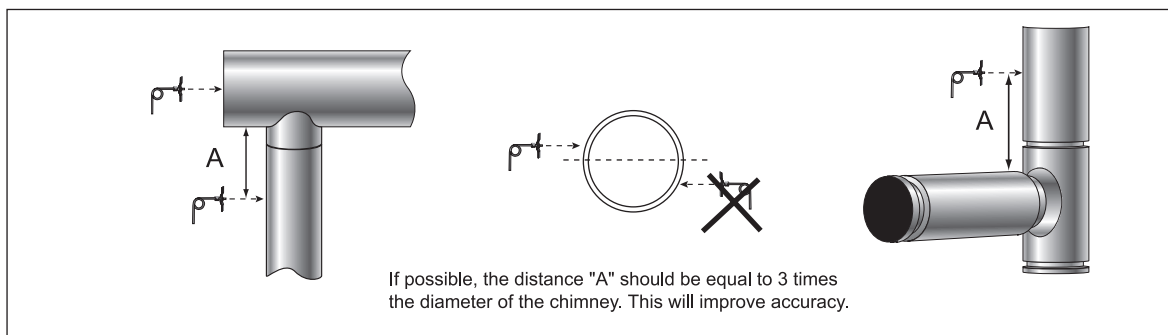

Fig. 11
- Install the probe for the Proven Draft Switch (PDS) in the vent connector. The probe must be located between the appliance and the power venter. The probe must be located at least 3 vent diameters downstream of the draft hood, draft diverter, or barometric damper. The probe placement should also observe distances from elbows and Tees as shown in Fig. 11.
See fig. 11 for more details